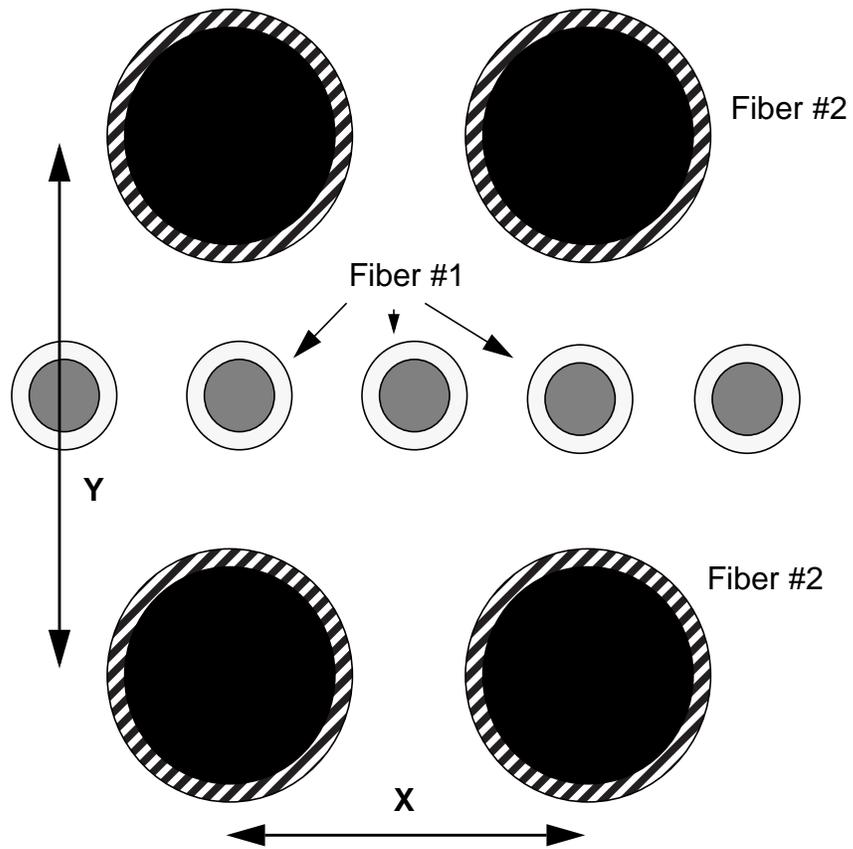

Figure 11: Hybrid Composite RVE; IDP = 9. Large Fiber Spacing Ratio, $R=X/Y$
- $R = X/Y$ which defines the ratio of distances between fiber centers within a “ply” and those between a “ply” (see Fig. 11)